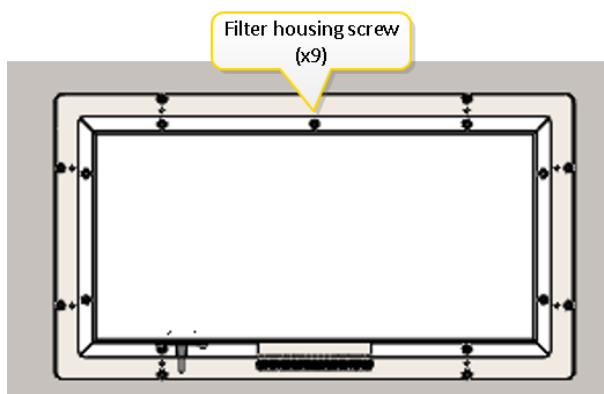

Figure 4-23 Removing the air input housing
- 3.2. Remove the nine screws from the housing, see Figure 4-23.